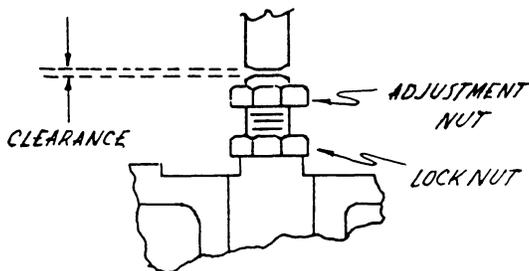

Fig.70 Valve Tappet - Adjustment
b. Two types of tappet adjusting screws are used: one is of the self-locking type and the other has a locking nut for holding the adjusting screw in place. Before making the adjustment, this locking nut must be loosened and the adjusting nut held in place when it is retightened after the adjustment is completed. See Fig. 70.